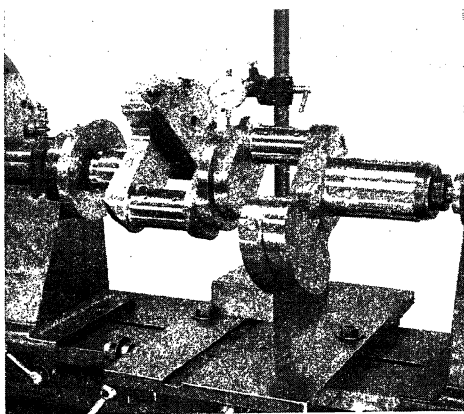

FIG. 17.—Checking runout of crankshaft with dial indicator.
**Crankshaft Inspection.**—Alignment of the crankshaft can be checked either by mounting in V blocks or between centers, as in Fig. 17. Runout is measured both at the center bearing seat and on a concentric ring placed